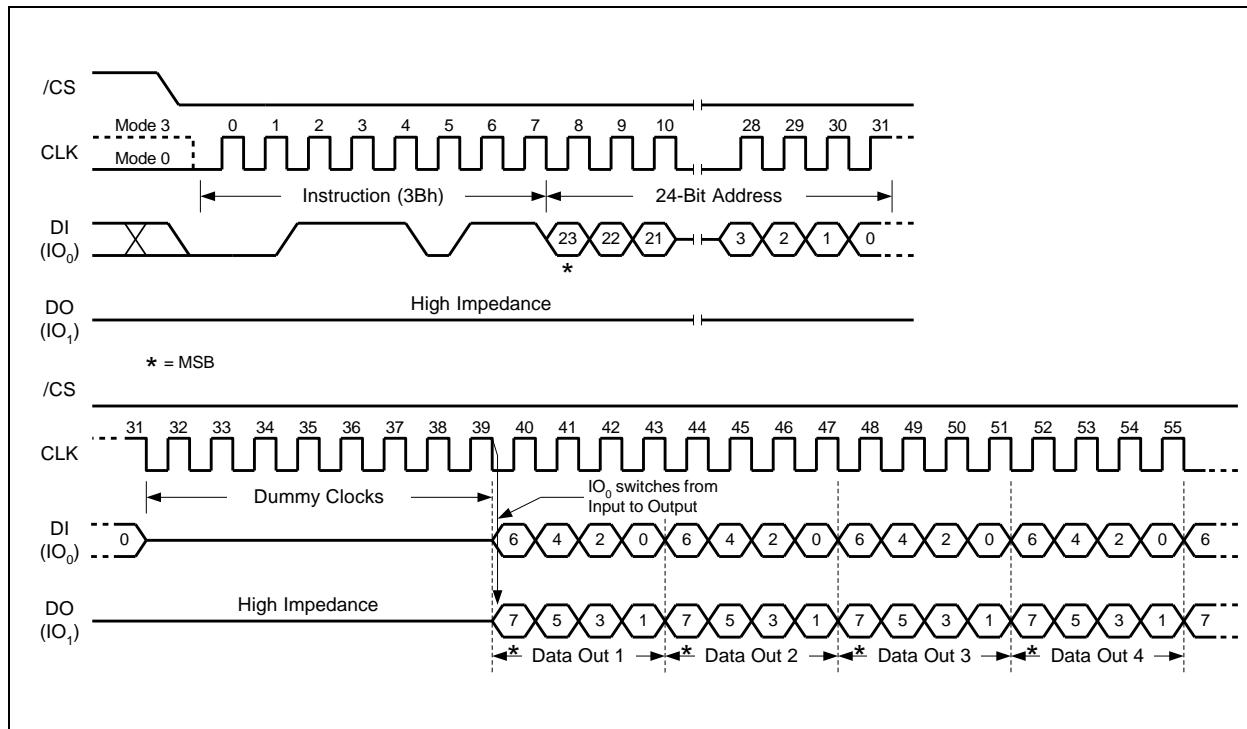

Figure 18. Fast Read Dual Output Instruction
**B.2.8** Similar to the Fast Read instruction, the Fast Read Dual Output instruction can operate at the highest possible frequency of FR (see AC Electrical Characteristics). This is accomplished by adding eight “dummy” clocks after the 24-bit address as shown in Figure 18. The dummy clocks allow the device’s internal circuits additional time for setting up the initial address. The input data during the dummy clocks is “don’t care”. However, the IO0 pin should be high-impedance prior to the falling edge of the first data out clock.